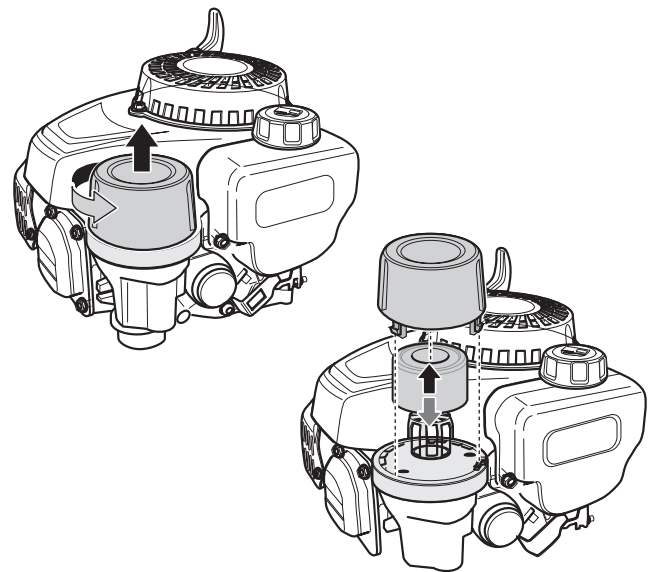

Figure 6-2
1. Remove the air filter cover by turning counter-clockwise then lifting up. See Figure 6-2. Clean foam element or replace when damaged.